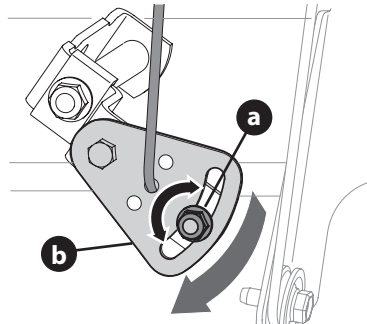

Figure 48
2. Loosen hex nut (a) on shift cable index bracket (b) (Figure 48).